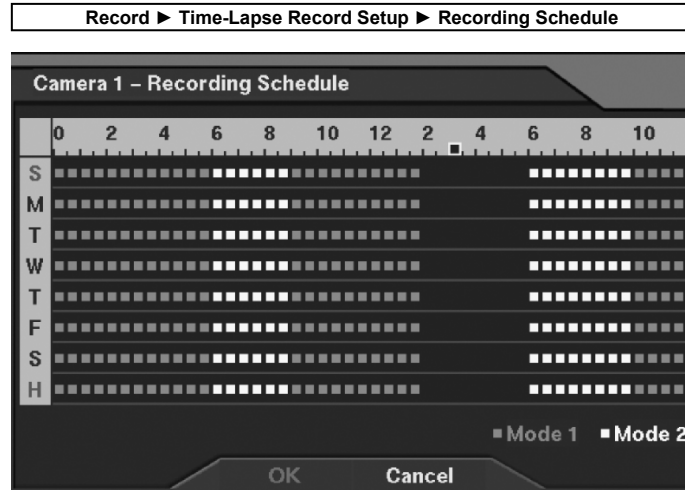

Figure 16 Recording Schedule Setup Dialog
- **Sched:** Schedule the time-lapse mode by time (Refer to Figure 16 Recording Schedule Setup Dialog.).